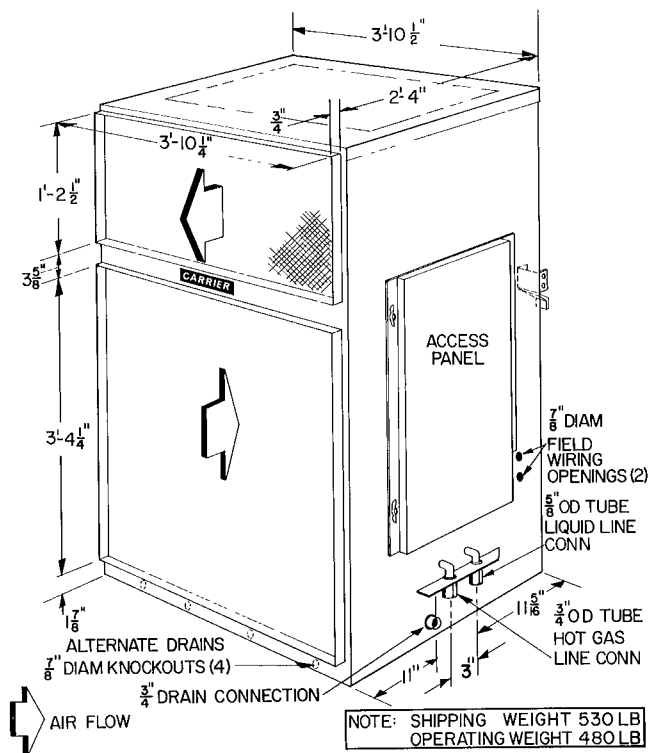

Fig. 1 - 09BB012 Air-Cooled Condenser
**EXTERNAL DRAINAGE** - If unit is located with front panel outside of building, there are four 7/8-in. knockouts that can be used for external drainage (Fig. 1).